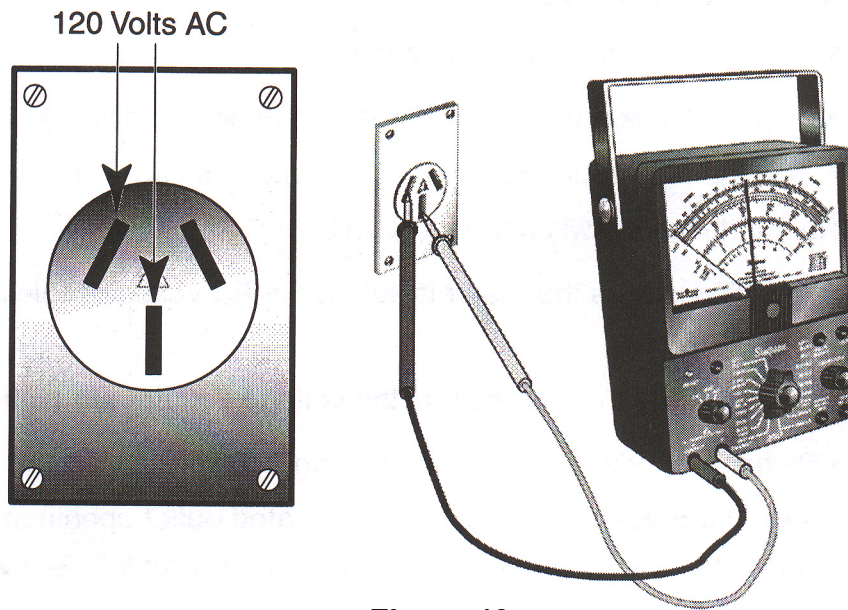

Figure 19
5. Touch the meter probe tips to the indicated outlet openings (see Figure 19). The meter should measure approximately 120 volts AC.